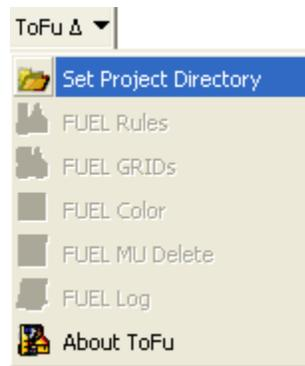

Figure 7-10. Use the drop-down menu to select **Set Project Directory**.
- To create a directory, click the drop-down menu on the ToFuΔ toolbar and select “**Set Project Directory**” (fig. 7-10).